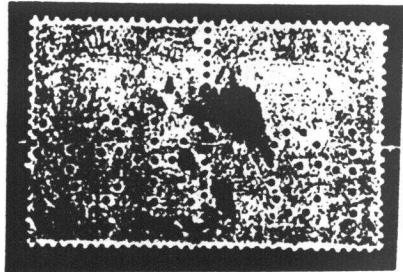

Fig. 3
3) The G5 perforator appears to be a 2 die machine. Figs. 3 & 4 show a pair and a strip of three which both indicate a 2 die setting quite clearly. I have at least a dozen other stamps which have portions of two patterns, these line up perfectly in all cases.